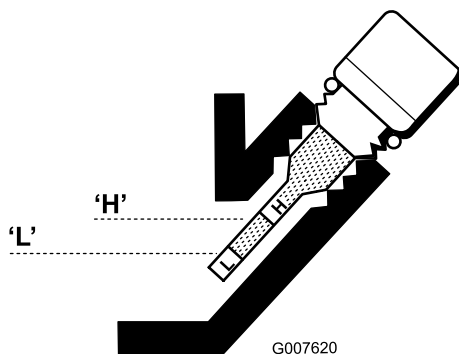

**Figure 34**
- Position the machine so that the engine is level, and clean the area around the oil-level gauge (Figure 34).
- Remove the oil-level dipstick by rotating it counterclockwise (Figure 34).
- At the rear of the machine, place a drain pan under the drain plug (Figure 34). Loosen the drain plug.